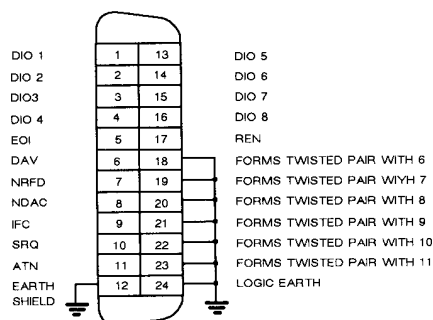

Fig. 2-2 GPIB connector contact assignments
- (1) Remove and discard the rectangular cover plate from the left-hand side of the rear panel.
- (2) Withdraw the interconnecting lead from inside the instrument and connect this to the GPIB assembly taking care that the ribbon cable connector SKAK is correctly aligned with GPIB module connector PLAK.
- (3) Switch instrument on temporarily and check that the front panel displays data correctly. If satisfactory switch off and continue with step (4). If the display is corrupted however then re-check the alignment of SKAK and PLAK as indicated in step (2).
- (4) Using the four retaining screws provided, secure the GPIB assembly to the rear panel where four pre-positioned captive nuts are fitted. The interface is now ready for GPIB operation.
- (5) Connection to other equipment which has a 24-way bus connector to IEEE Standard 488 can be made with the GPIB lead assembly 43129-189U, available as an optional accessory. Where conformity with the radio frequency interference limits specified by VDE (Verband Deutscher Electrotechniker) is required, an alternative double screened GPIB lead assembly 43129-279M is available. An IEEE-to-IEC adapter 46883-408K is also available for interfacing with systems using a 25-way bus connector to IEC Recommendation 625 - see Fig. 2-2.
The contact assignment of the GPIB cable connector and the device connector is as shown in Fig. 2-2.